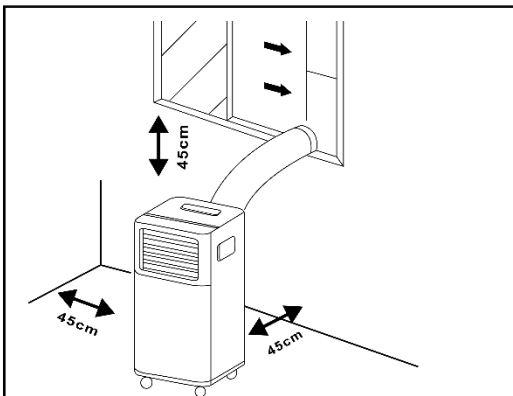

Fig. 5
4. Affix the hose outlet into the window seal kit (Fig. 5+6)